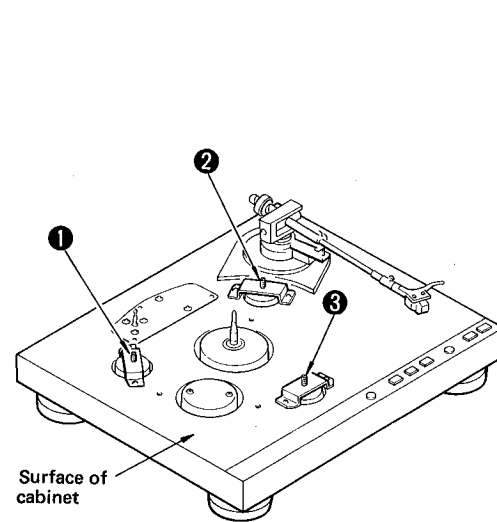

Fig. 1
1. Adjust so that the space between platter and surface of cabinet is 4 mm ± 0.2 mm by turning screws ① to ③ in Fig. 1.